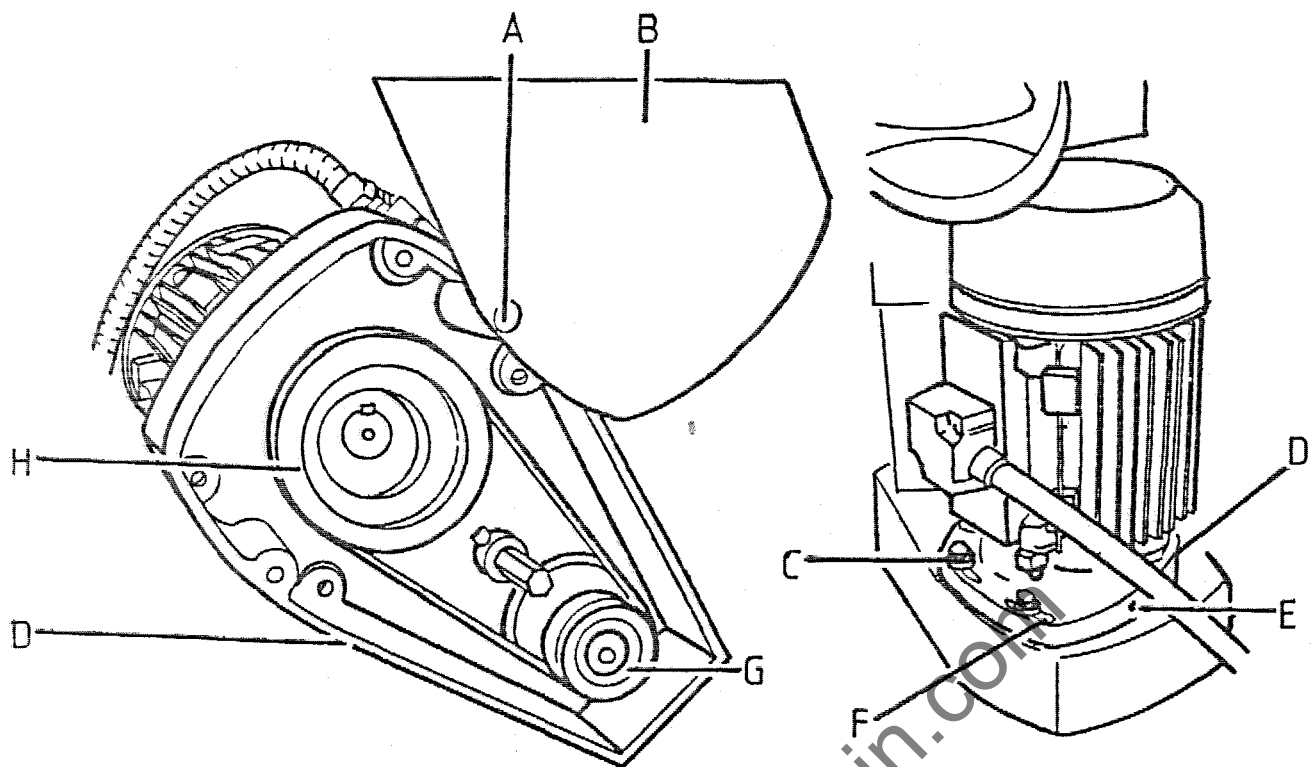

FIG. 41
- 2 Remove 3 - button head screws "A" FIG.41, securing belt cover plate "B" to head.